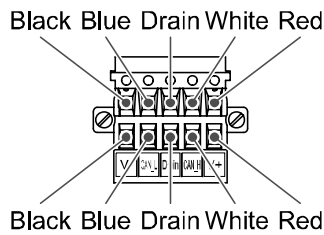

Fig. 1
- Make sure to connect the signal cables to designated pins (Refer to Fig. 1).